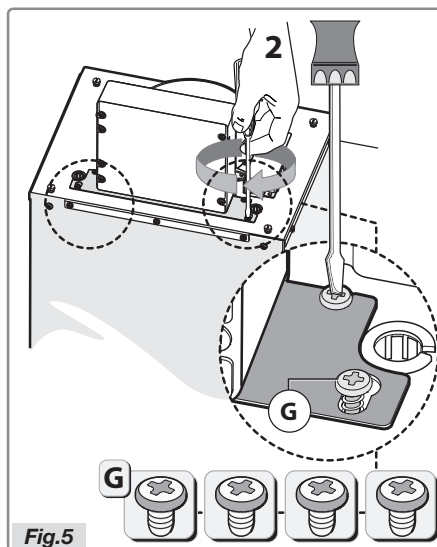

Fig.5
- Secure the bracket with the four screws **G**, as indicated in Figure 5.